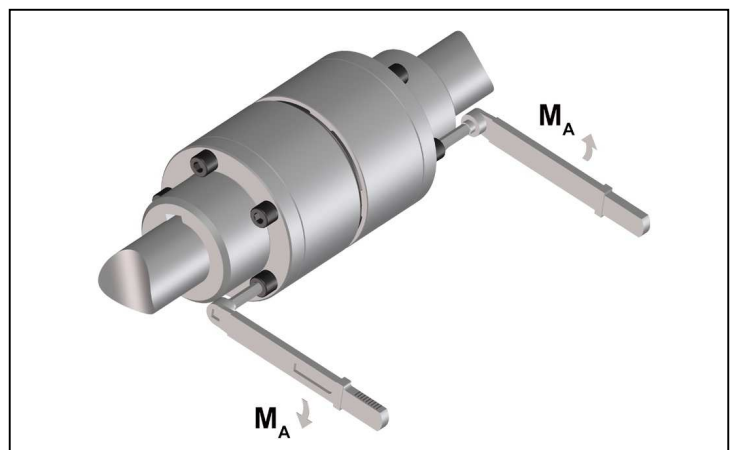

Fig. 6
- Tighten up the bush screw fitting with the tightening torque M_A as stipulated in table 2 (Figure 6).